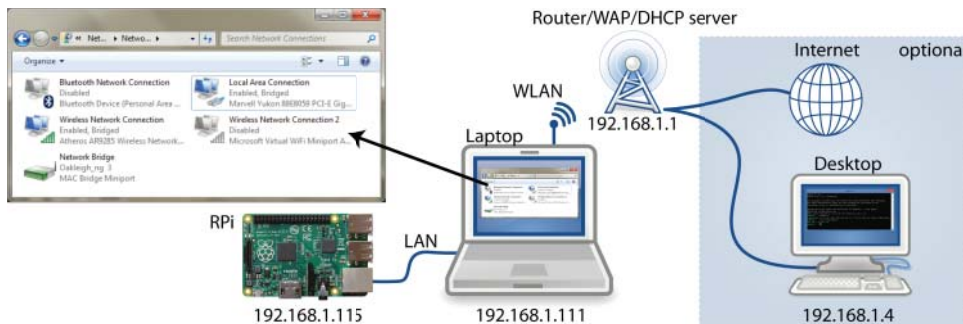

Figure 2-2: An Ethernet crossover cable configuration example
3. Bridge the two network connections. Under Windows, choose Network and Internet ⇄ Network Connections. Select the two network adapters (wired and wireless) at the same time, right-click, and choose Bridge Connections. After some time, the two connections should appear with the status Enabled, Bridged, and a network bridge should appear, as illustrated in Figure 2-2.
You can then communicate with the RPi directly from anywhere on your network (including the laptop itself) using the steps described in the next section. Figure 2-2 provides a configuration example subsequent to the steps in the following section taking place. As illustrated in the figure, the DHCP server allocates the laptop the IP address 192.168.1.111 and the RPi the IP address 192.168.1.115. Therefore, an SSH session from the desktop machine at IP address 192.168.1.4 to the RPi provides the following interaction: